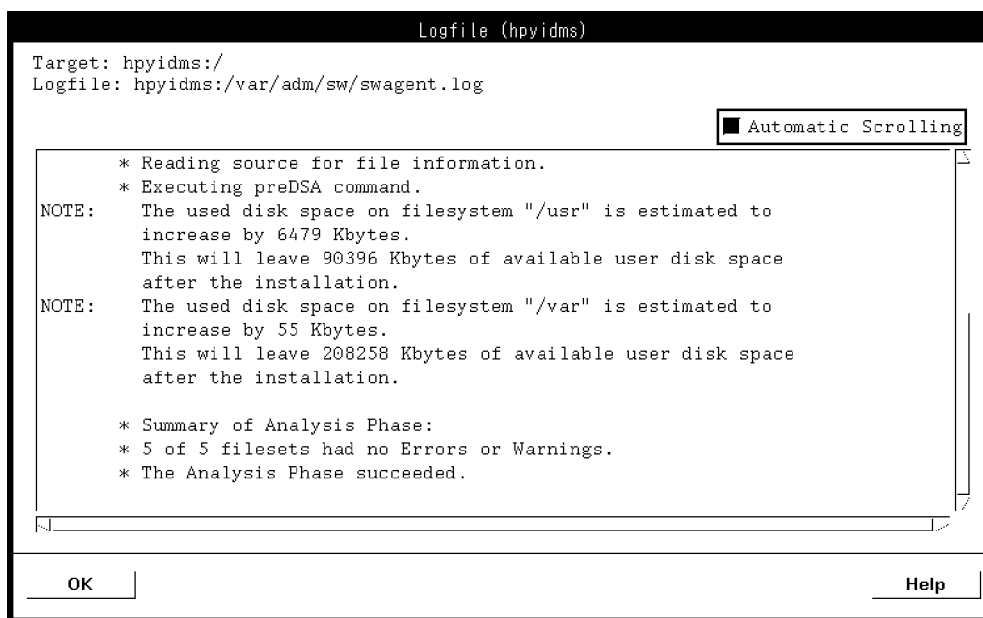

Figure 5-6. Logfile Window
g. Click **Logfile...**. The logfile window appears as shown in Figure 5-6.